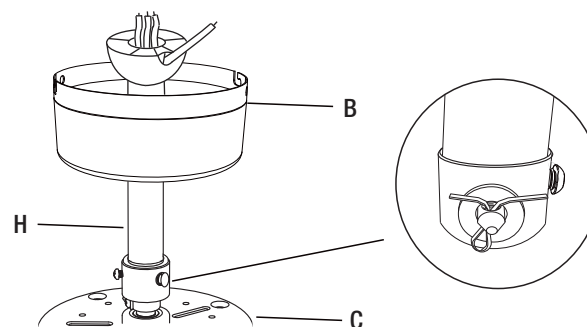

Figure 5
- Loosen the screws first and then insert the downrod assembly (H) into the hanger at the top of the fan motor assembly.
- Push the pivot pin (FF) through the hanger and downrod holes (Figure 5). Pivot pin's insert end is a specially-designed cone shape that pushes away and won't harm the wires inside the downrod. Secure the pivot pin by inserting the split pin and bending the ends to prevent it from falling out of the holes (Figure 5).
- Secure the hanger and downrod by tightening the screws pre-installed on the hanger (Figure 5).